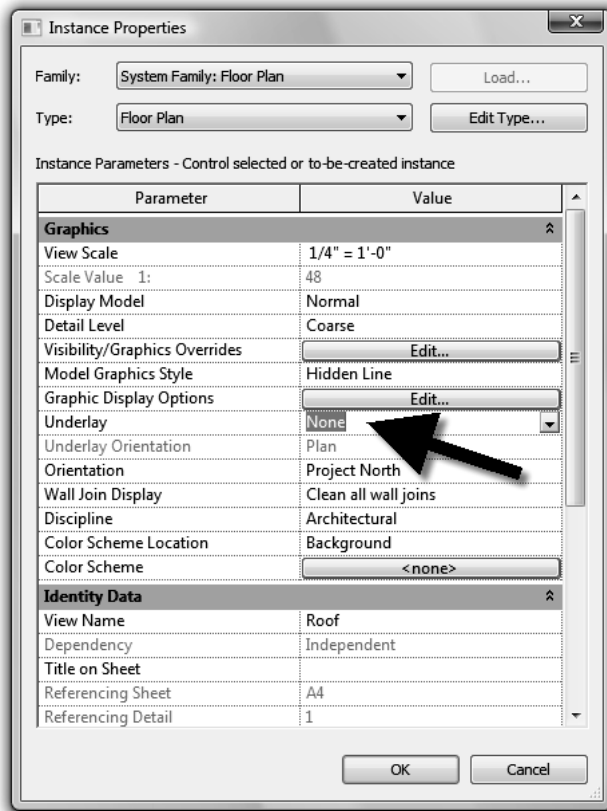

Figure 7-2.9 Roof plan view; view propertyed
20. Set the **Underlay Parameter** to **None** (Figure 7-2.9).